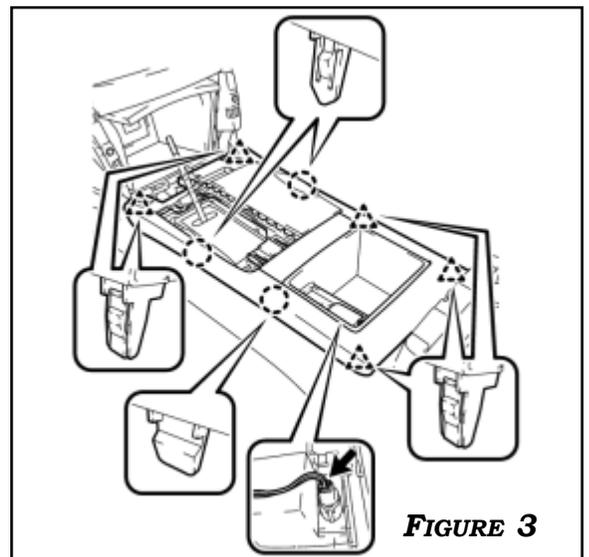

FIGURE 3
2. DISENGAGE THE 3 CLAWS AND THE 5 CLIPS. DISCONNECT THE CONNECTOR AND REMOVE THE UPPER CONSOLE REAR PANEL SUB-ASSEMBLY. **FIGURE 3**